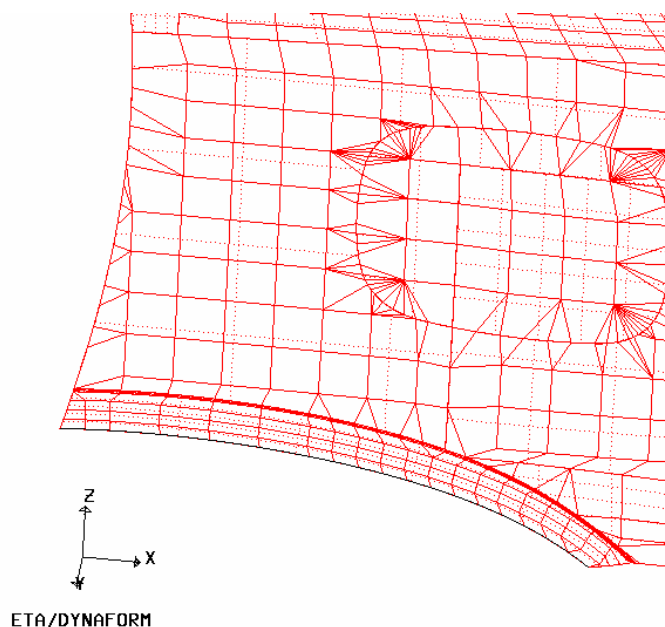

Figure 6.1.39 Select Morphing Boundary
1. Click on the MORPHING BOUNDARY button to highlight the boundary of die. Eta.DYNAFORM requests the user to select two points on the part boundary to define a morphing region. Figure 6.1.39 illustrates the selected region on the part boundary for morphing operation.